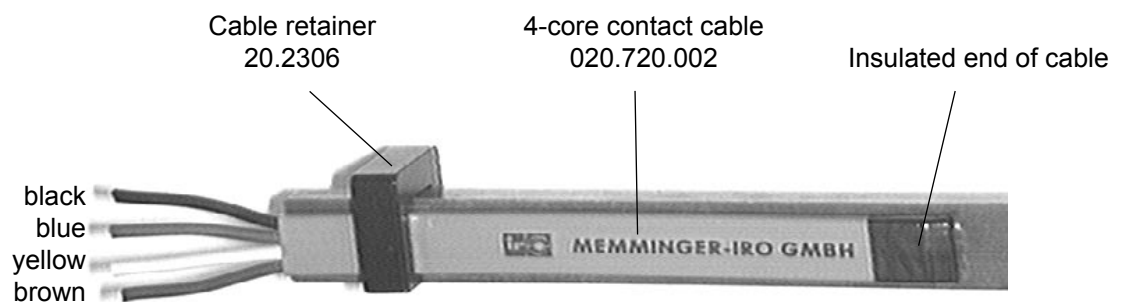

Fig. 7
- The unconnected end of the cable must be well insulated. It must be rendered safe from direct contact and from short circuiting (see Fig.7).
- Having fitted the ring or the rail, attach the 4-core contact cable with the cable retainer or cable ties - black lead uppermost (see Fig.7).